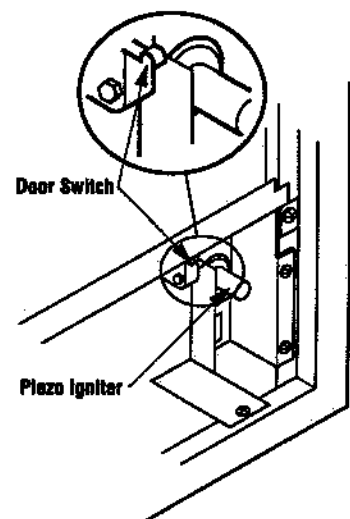
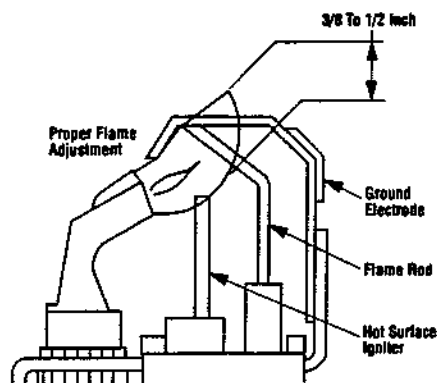

Figure 42
Figure 43
**\*Note:** Press in and hold the door switch to operate the appliance while leak testing, otherwise the unit will not light (refer to Figure 42).
To light the burner; turn "ON" the remote wall switch, manually depress and hold the door switch (Figure 42) and rotate the gas valve control knob counterclockwise to the "ON" position ("ON" will be at the bottom side of the valve).
To light the burner, turn "ON" the optional remote wall switch, manually depress and hold the door switch (Figure 42) and turn the gas control switch to the "ON" position. Ensure the ignitor lights the pilot. The pilot flame should engulf the flame rod as shown in Figure 43.